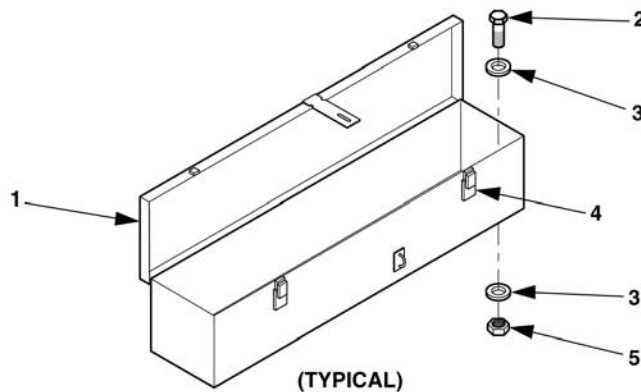

Figure 4-19. Replace Accessory Box.
1. Release clamping catches (4, figure 4-19) and open accessory box cover (1).
1. Position accessory box (1, figure 4-19) over mounting holes in trailer.
2. Install flat washers (3), machine bolts (2), and self-locking nut (5).
4. Close accessory box cover and secure with clamping catches (4).